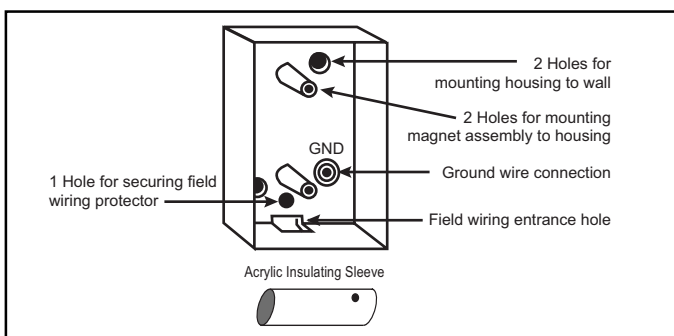

Figure 4. Surface Housing
- Refer to Figure 4. If not using surface metal raceway (not supplied), secure the acrylic insulating sleeve (provided) to the hole in the surface housing with the #8-32 x 3/16" screw provided.